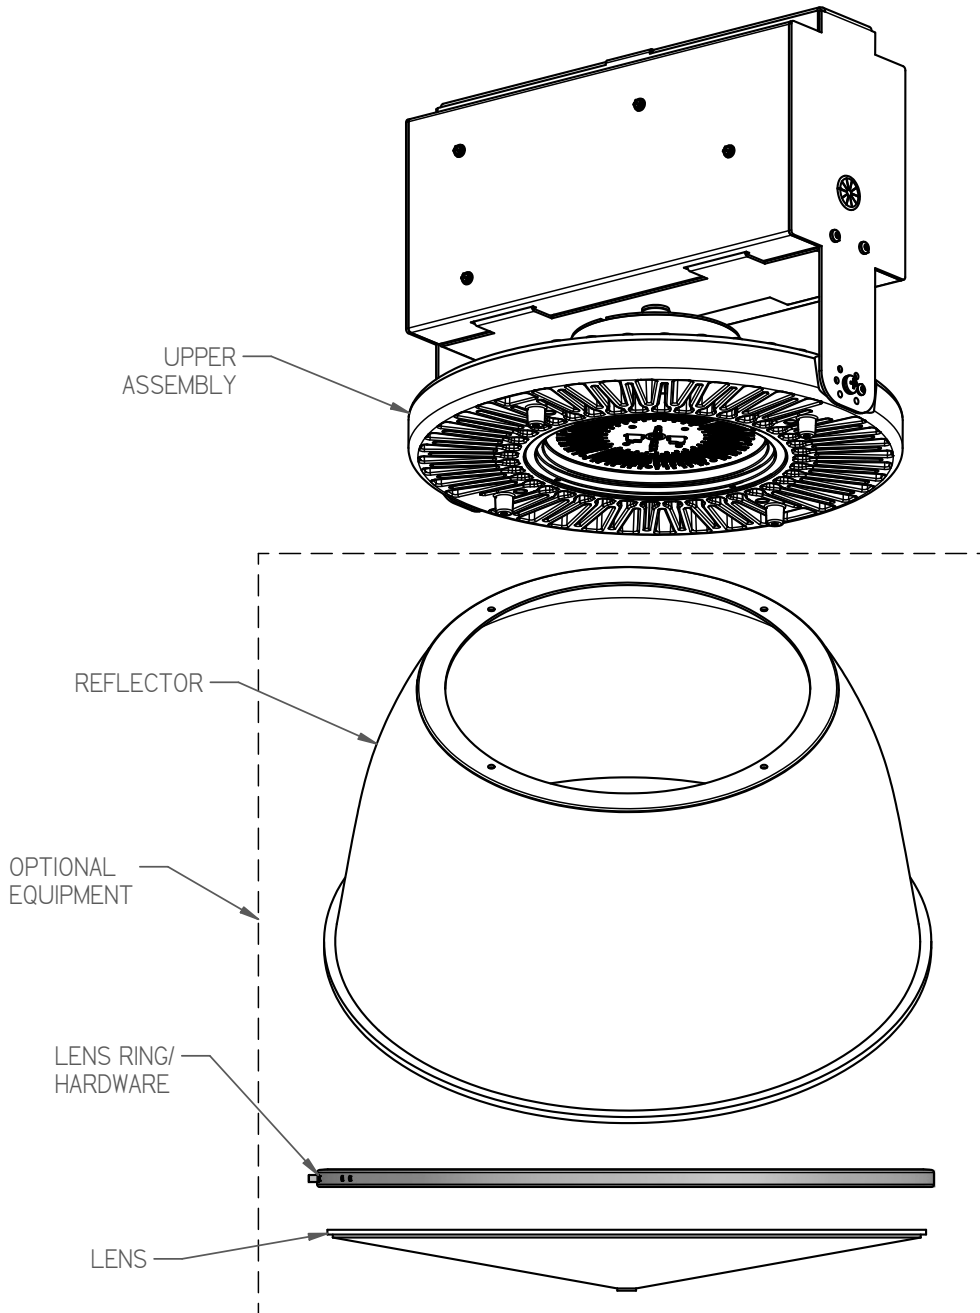

FIGURE 1
1. Align holes in Yoke to holes on side of heatsink (2 places). (See Figure 1)